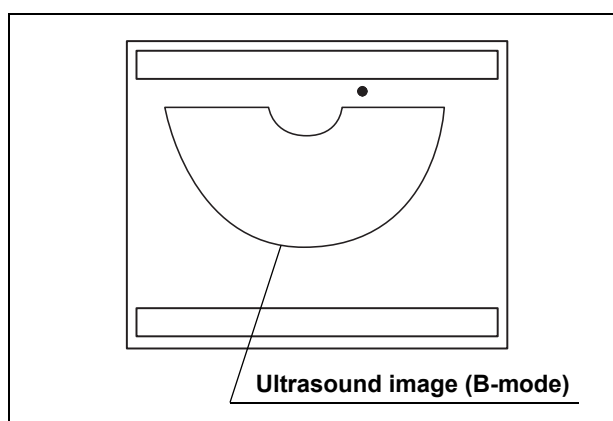

Figure 3.23
3. Confirm that the ultrasound image is visible on the diagnostic ultrasound system (see Figure 3.23).